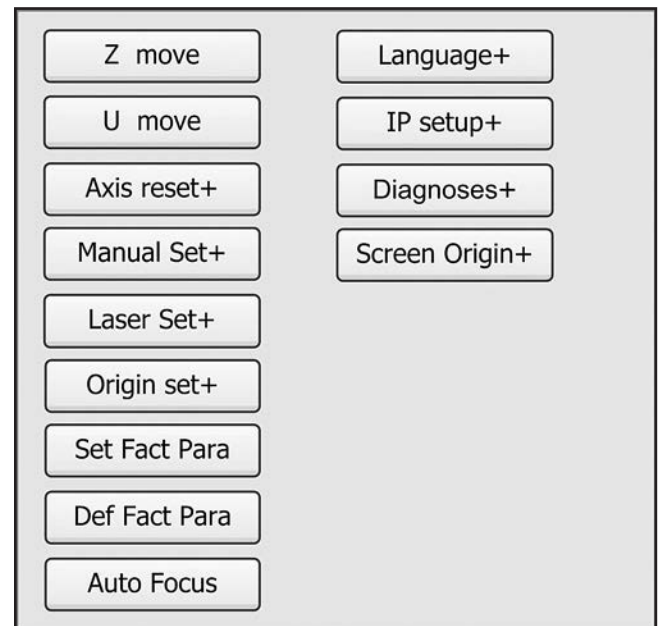

Figure 44. Example of Z/U menu screen.
4. Press Z/U button on control panel to display Z/U menu screen (see **Figure 44**).
4. Press Z/U button on control panel to display Z/U menu screen, then use arrow nav buttons to highlight "Z move" (see **Figure 44**).
7. Use arrow nav buttons to highlight "Z move" (see **Figure 44** on **Page 37**).